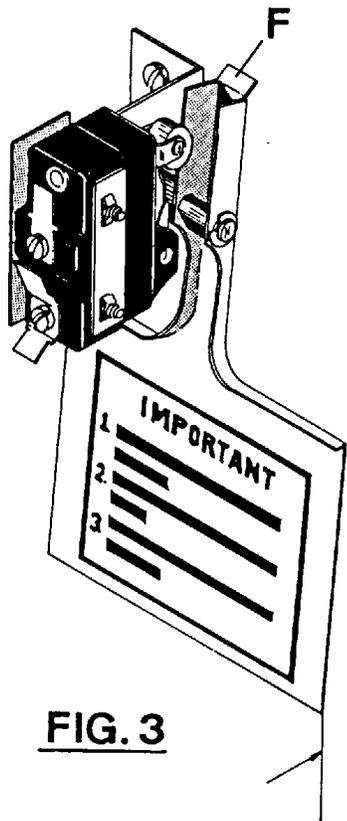

FIG. 3
4. Maximum opening of air switch must be no greater than $\frac{3}{4}$ " (20 mm) (figure 3). Bend tab "F" in or out to maintain this dimension.